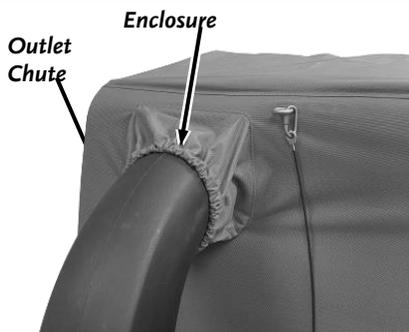

Figure 85
- Pull the Enclosure Sleeve around the Outlet Chute (Figure 85).